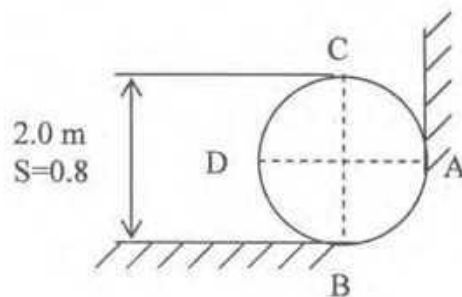

Figure 6
- b. Determine the horizontal and vertical forces acting on the curve surface CD on the cylinder in Figure 6.
- c. Determine the horizontal and vertical forces acting on the curve surface DB on the cylinder in Figure 6.
- d. What is the net vertical force acting on the cylinder shown in Figure 6, if it weighs 24.5 kN. Neglect friction.